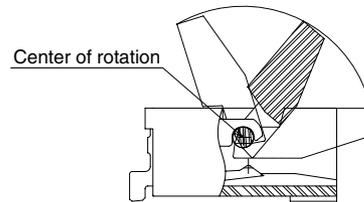

Fig.1
- ① Lifting at the center, carefully rotate the actuator to a fully open position.
- ② The actuator rotates at the center of rotation (Fig. 1). Do not attempt to operate it in any other way.